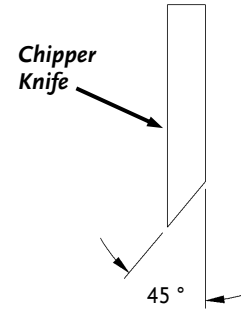

Figure 43
- It is extremely important to consistently maintain the 45-degree angle for proper performance (**Figure 43**).